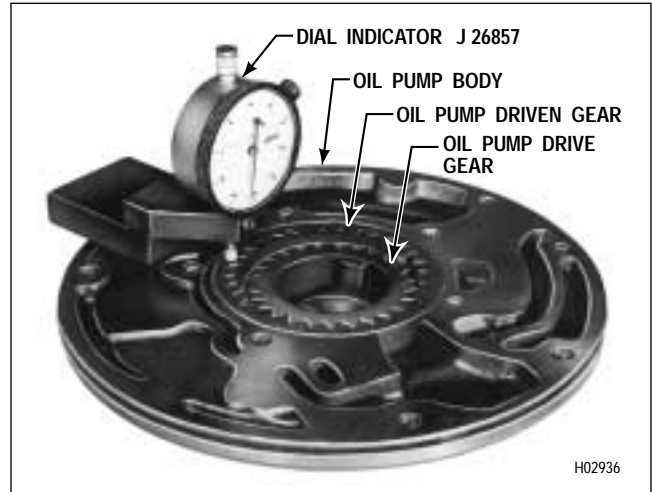

Figure 6-29. Dial Indicator Check of Oil Pump Driven Gear End Clearance
(3) Without disturbing the dial setting, slide the indicator to the driven gear (Figure 6-29). While holding the indicator in position, record the reading. If the clearance is not within 0.0008–0.0022 inch (0.020–0.056 mm) on a new gear or 0.0008–0.0026 inch (0.020–0.066 mm) on a used gear, replace the gear and repeat Steps (2) and (3).